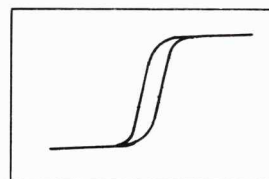

Figure 4-14. Ramp Reset Waveform.
f. The reset portion should show more than one line, as in Figure 4-14. The lines should not be separated by more than ten divisions on the display.